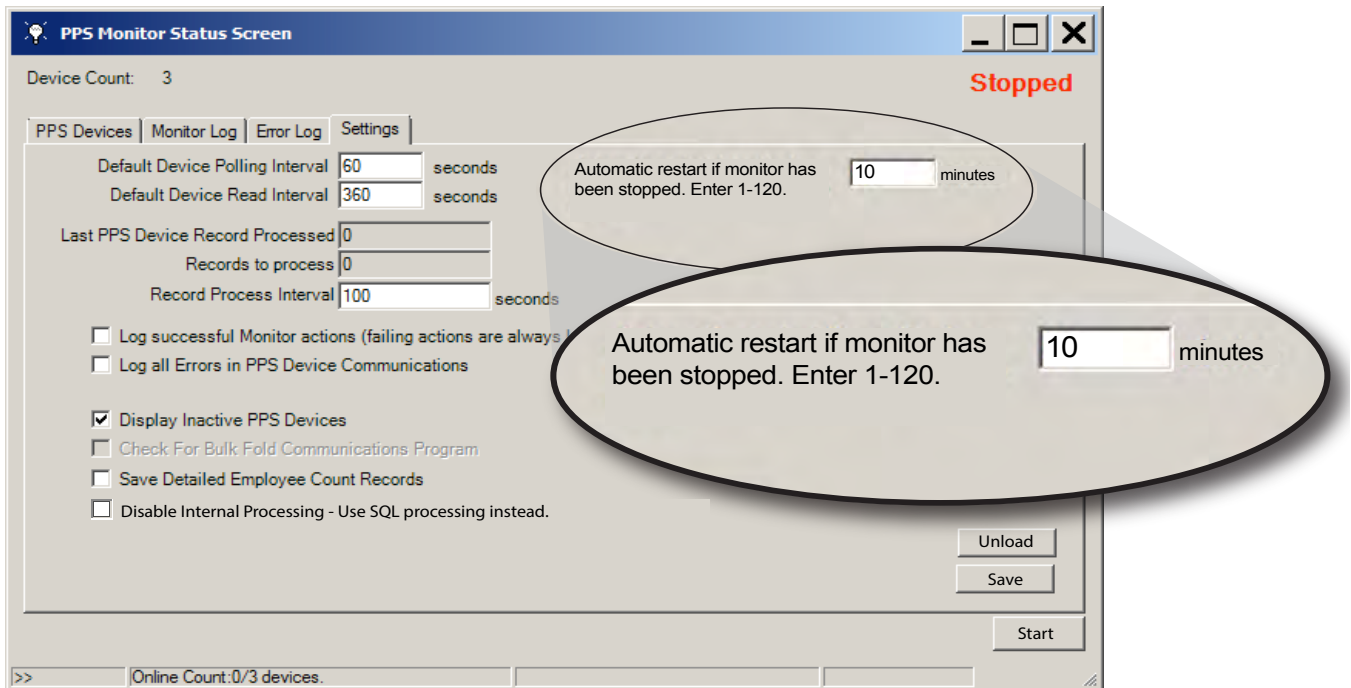

Figure 78. PPS Monitor Status Screen: Automatic Restart.
1. Change the number of minutes in the **Automatic Restart** field (see Figure 78).